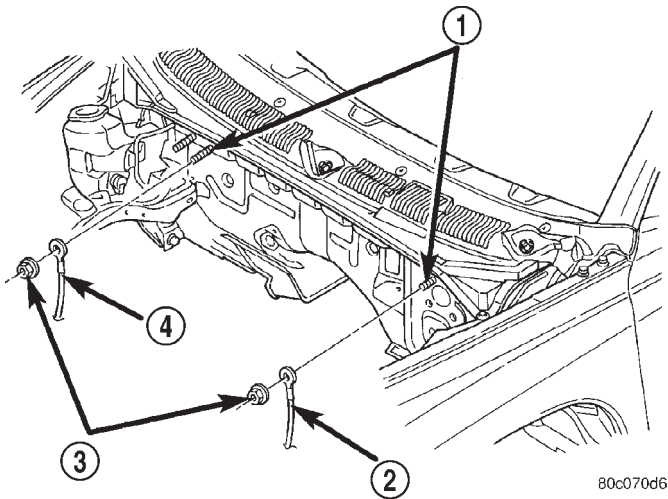

Fig. 16 Engine-To-Body Ground Strap Remove/Install - Typical
(1) Remove the nut and washer that secures the left engine-to-body ground strap eyelet terminal to the weld stud on the left side of the lower plenum panel (Fig. 16).
(2) Remove the nut and washer that secures the right engine-to-body ground strap eyelet terminal to the inboard weld stud on the right side of the lower plenum panel (Fig. 16).